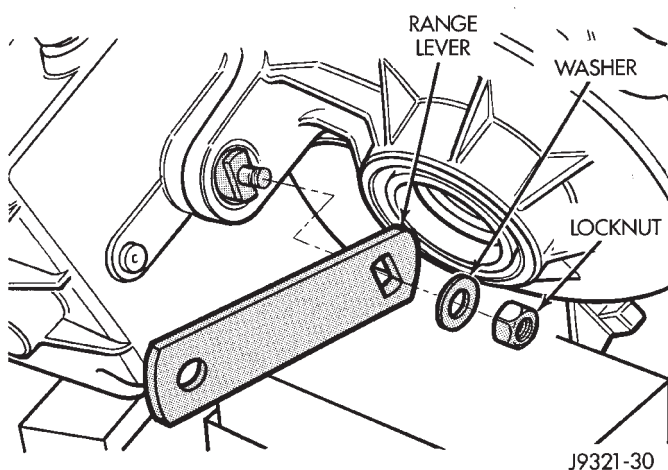

Fig. 30 Range Lever Removal
(31) Remove range lever locknut and remove lever and washer from shift sector shaft (Fig. 30).